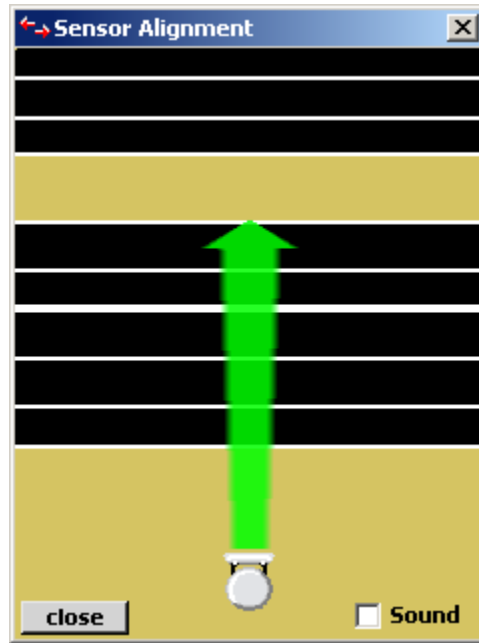

Figure 22 - Sensor Alignment
5. Adjust the sensor according to the sensor displayed in the Sensor Alignment window (see Figure 22). A green arrow means the sensor is correctly positioned for optimal performance; a yellow arrow means the sensor is NOT correctly aligned with the roadway. For audio verification, check the **Sound** box.